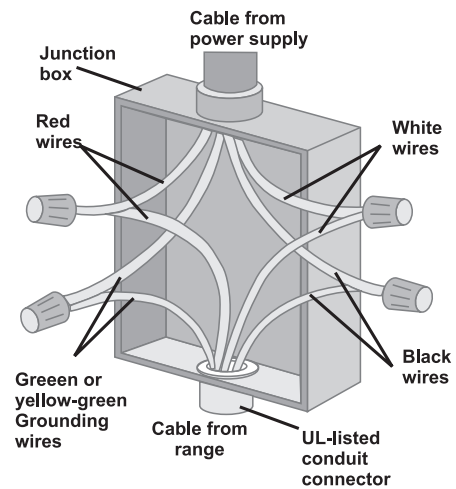

Fig.2)
- Figure 1 and Figure 2 on pages 15 - 16, and the instruction provided below present the most common way of connecting the appliance.
Refer to **Figure 2**,